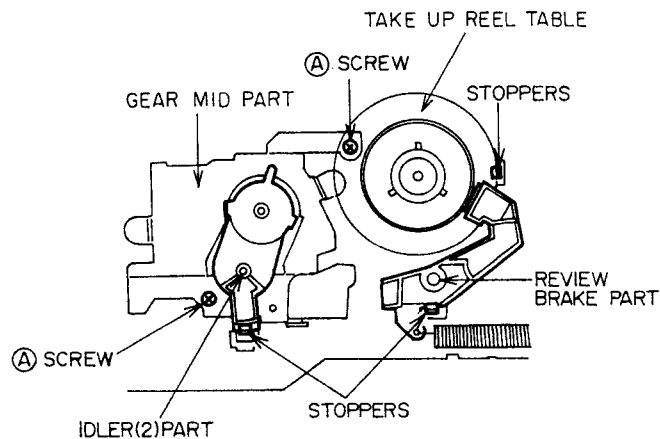

Fig. 3-18
- 2) Release the stopper of IDLER PART (2) as shown in Fig. 3-18, then remove it.
- 1) Remove the IDLER (2) PART and REVIEW BRAKE PART with referring to the step 3-6
- 2) Release the stopper of the TAKE UP REEL TABLE as shown in Fig.3-18, then remove it.
- 3) Remove the two (A) screws then replace the GEAR MID PART as shown in Fig.3-18